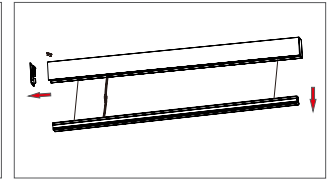

FIGURE 6-3
- III. For End-of-Run, remove the end cap with the power cord and remove the LED module. (Figure 6-3)